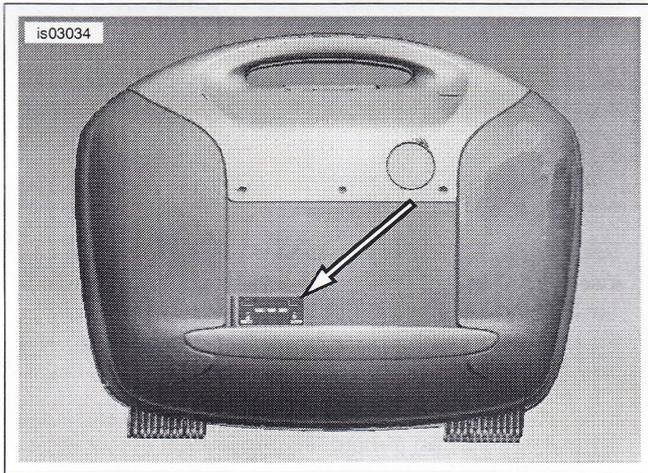
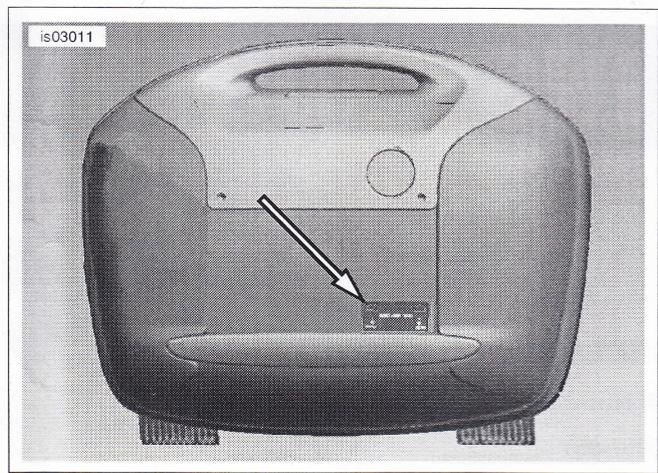

Figure 2. Left Side Case Reflector Mounting Location
Figure 3. Right Side Case Reflector Mounting Location
1. See Figure 2 and Figure 3. Using isopropyl alcohol, clean the surface of the sidecase where the reflector will be mounted.
2. Remove the adhesive backing from the left side reflector and install per Figure 2 with orientation arrow on the reflector pointing up. Hold reflector firmly against saddlebag for 10-15 seconds.
3. Remove the adhesive backing from the left side reflector and install per Figure 3 with orientation arrow on the reflector pointing up. Hold reflector firmly against saddlebag for 10-15 seconds.